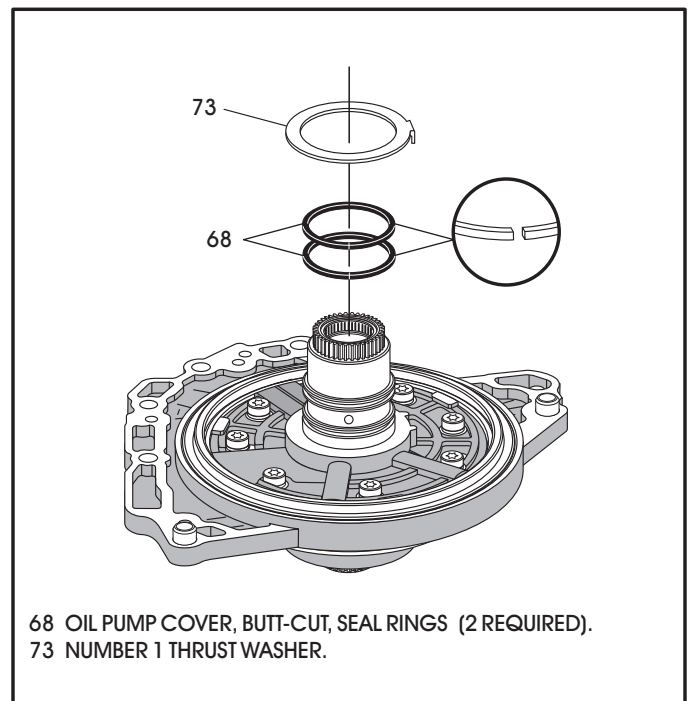

Figure 104
18. Install the number 1 thrust washer onto back of pump cover, as shown in Figure 104, and retain with small amount of Trans-Jel®.
19. Install two new sealing rings into grooves of the pump cover, as shown in Figure 104, and ensure butt ends meet.